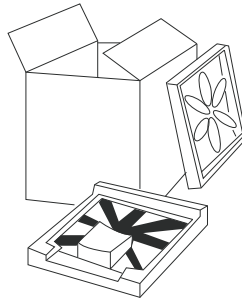

Fig. 1
- As shown in figure1, remove all the packing materials (including the foam base).